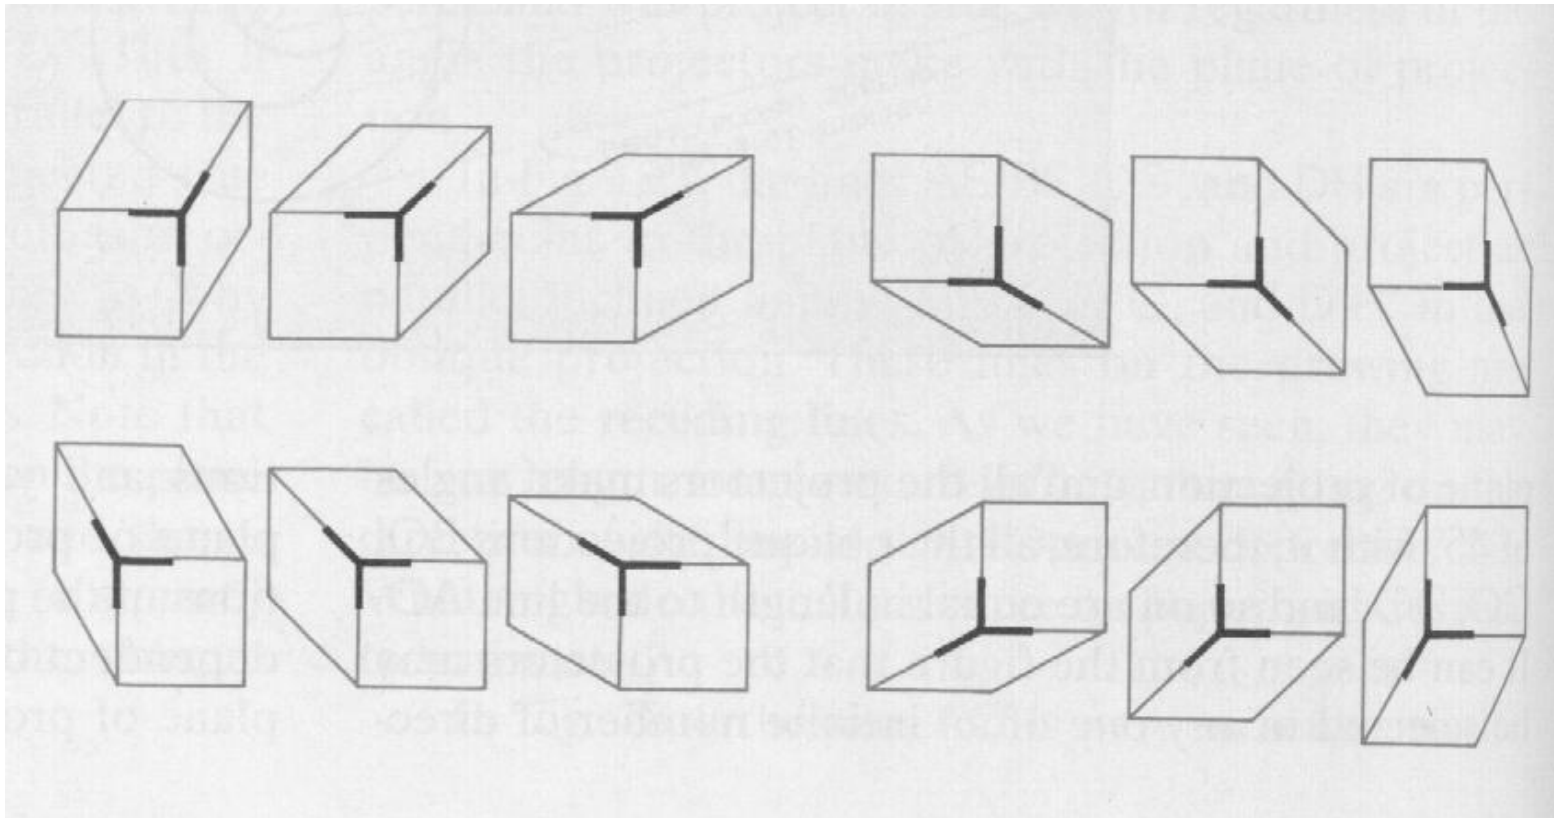

Fig. 6.2. Variation in direction of Receding axis.
To draw a rectangular object (Fig.6.2) start with a point representing a front corner (A) and draw from it the three oblique axes, one vertical, one horizontal and one at an angle. On these three axes measure the height, width and depth of the object. In this case, the width is made up of 40 mm. distance and the 15 mm. radius. Locate the centre of the arc, and draw it as shown. The center for the arc of the hole in the figure will be at the same point as the centre for the outside arc on the front face. The centre for the rear arc of the hole will be 15 mm. rearward on a depth axis line through the front centre.